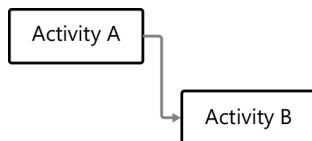

FIGURE 4-3 A finish-to-start relationship is shown with an arrow from the finish of the predecessor activity to the start of the successor activity.
- **Finish-to-start (FS)** A finish-to-start relationship is one in which the successor activity cannot start until the predecessor activity has finished. For example, you cannot erect the walls of a house until the foundation has been completed. Figure 4-3 depicts how this would be represented diagrammatically.